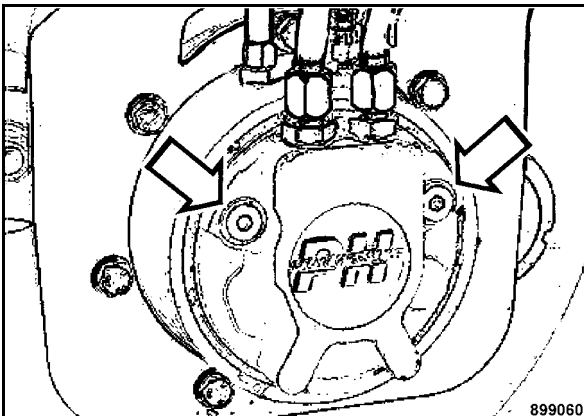

Fig. 51
- Unscrew the two plugs (Fig. 51).
- Turn both plugs back in (Fig. 51).